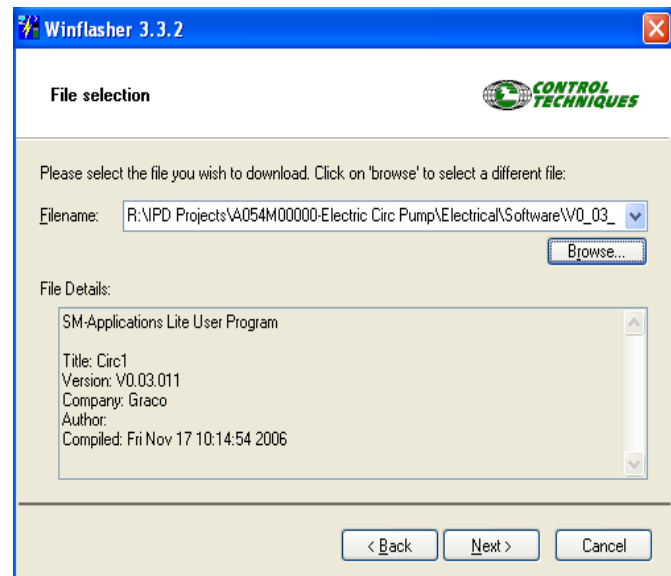

FIG. 6
4. Browse for a Graco software file and select Next. See FIG. 6.